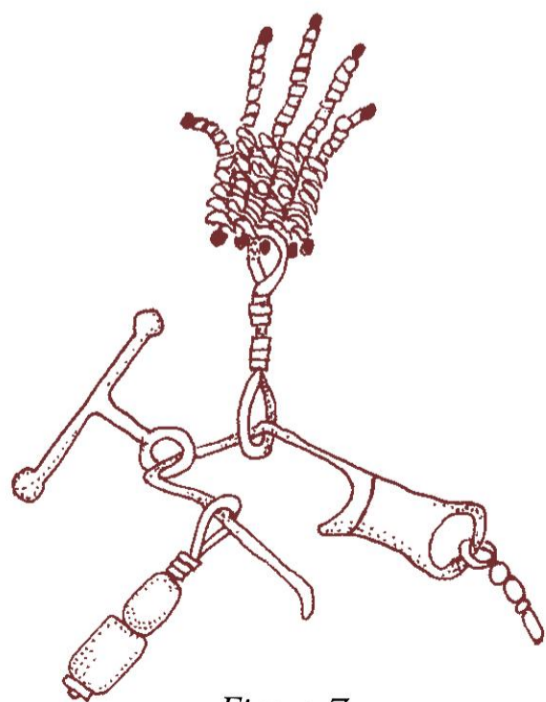

Figure 7
**13** Lay out the bracelet how it will be assembled. I used one hand and two head pins with beads to each fishing swivel in the project in the main photo. The fishing swivels are a lot like safety pins in mechanics. Open the fishing swivel, and thread one wrapped loop of the first hand on the swivel. Then proceed by sliding the bar end of the clasp on, and finish with one head pin before closing the swivel (see figure 7).